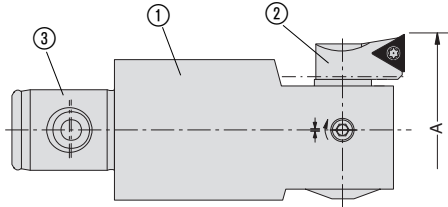

Fig. 1
- on the spindle side, the tool is designed with a Wohlhaupter-**MULTI**® connection ③ (Fig. 1)